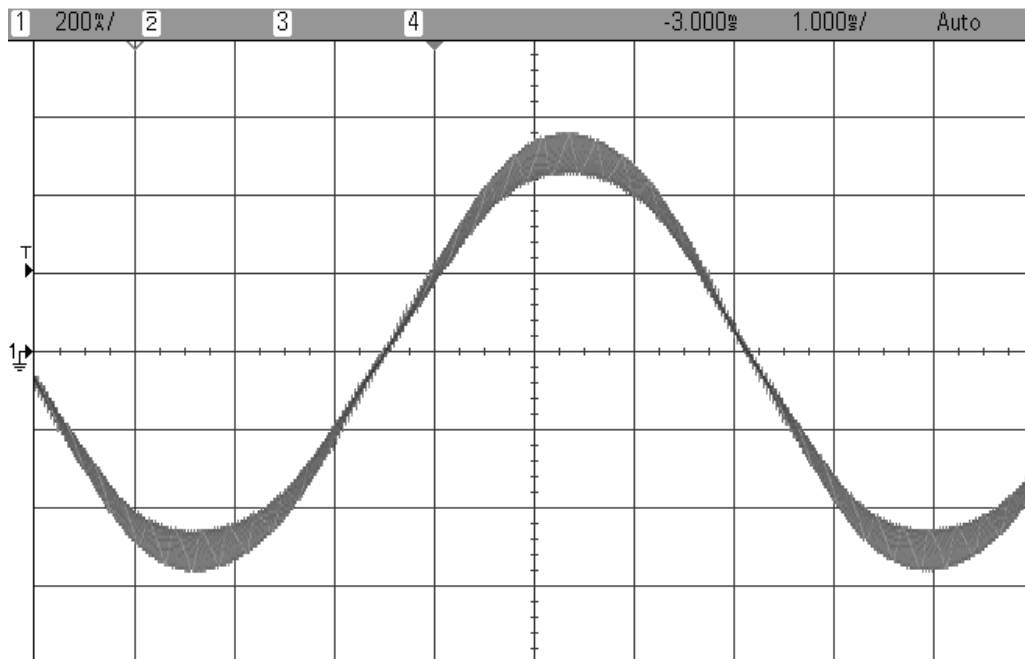
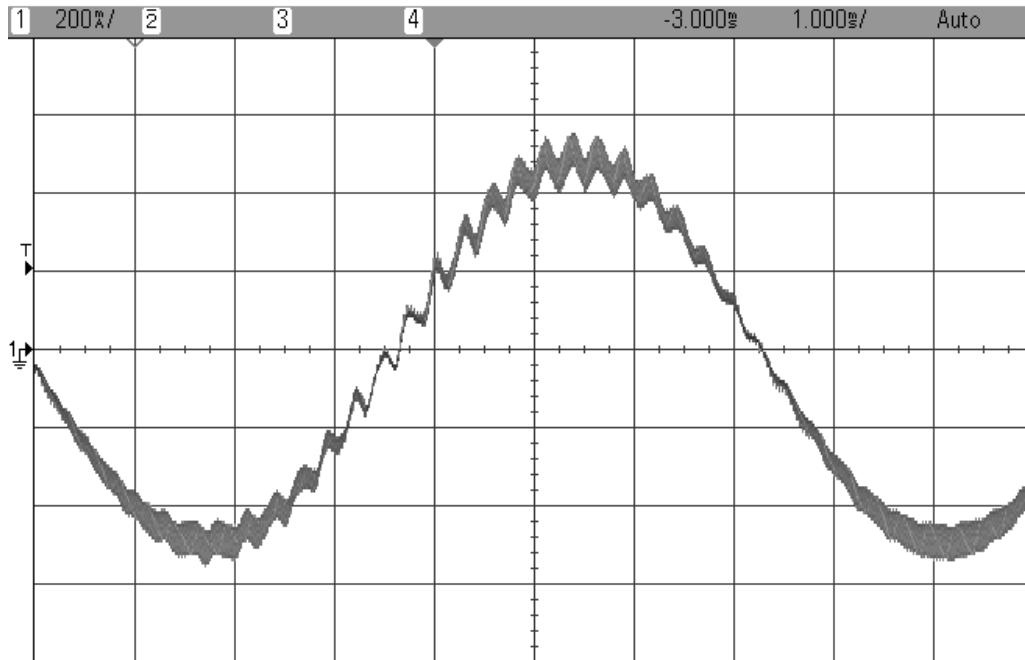

Figure 21: K_p^{series} setting that has been calculated at 1/20 of the bandwidth.
Figure 22: K_p^{series} setting that is too high resulting in the controller becoming unstable.
As the bandwidth gets wider, the sampling delay has more of a negative effect on the phase margin of the controller and causes the control loop to become unstable. Figure 21 is a plot of the motor current waveform with a stable K_p^{series} setting. As the K_p^{series} is increased, the phase margin of the control loop becomes smaller. After a while the control loop is unstable and starts to oscillate as shown in Figure 22. The current controller gain should not be set to this high of a value. When a current loop instability occurs, lower the K_p^{series} gain until the current waveform is like the one in the following figure.
- When the motor makes the high pitch noise, its current waveform looks like that in Figure 22.